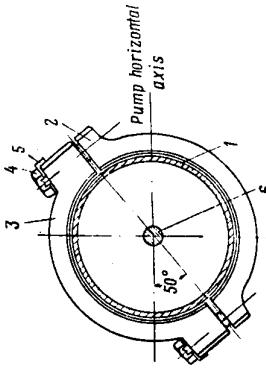

Fig.16. Arrangement of Half-Rings of HP-10A Pump-to-Accessory Drive Gear Box Quick-Release Joint
24. Turn down the bolts securing the half-rings having fitted locking washers under the bolt heads; lock the bolts, the parting line of the quick-released joint half-rings should be located approximately at an angle of 50° relative to the pump horizontal axis (FIG.16).